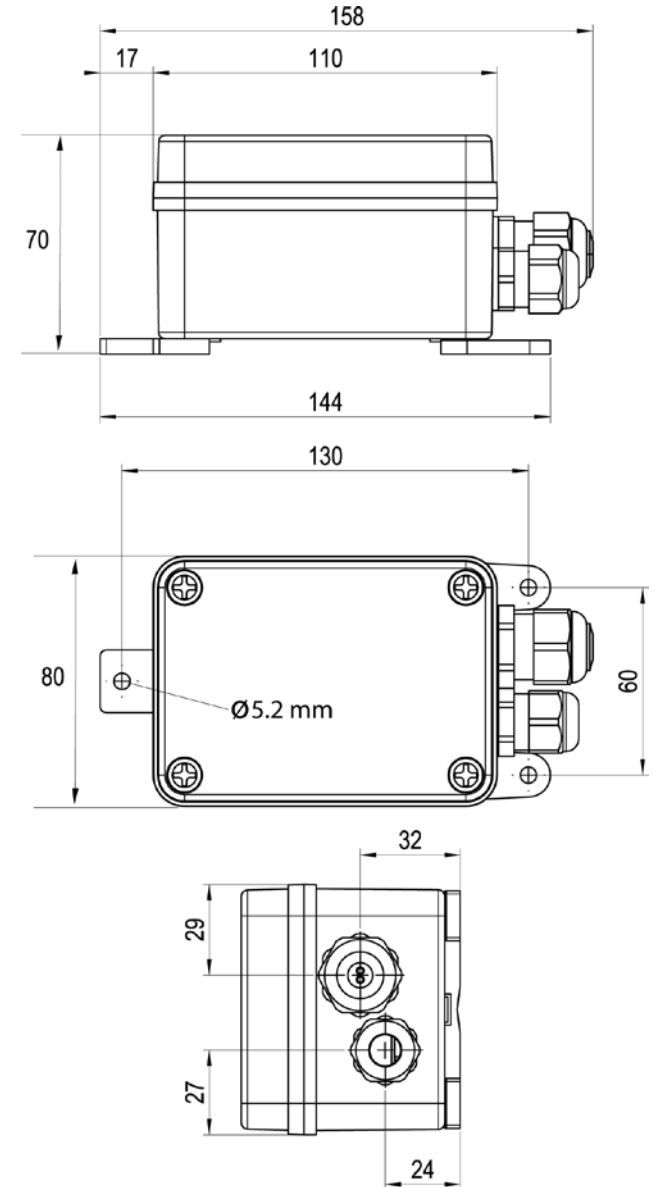

Figure 7 Module Housing Dimensions
8. Mount the housing in the desired location. For mounting dimensions, see Figure 7. The diameter of the screw holes for mounting the housing is 5.2 mm.